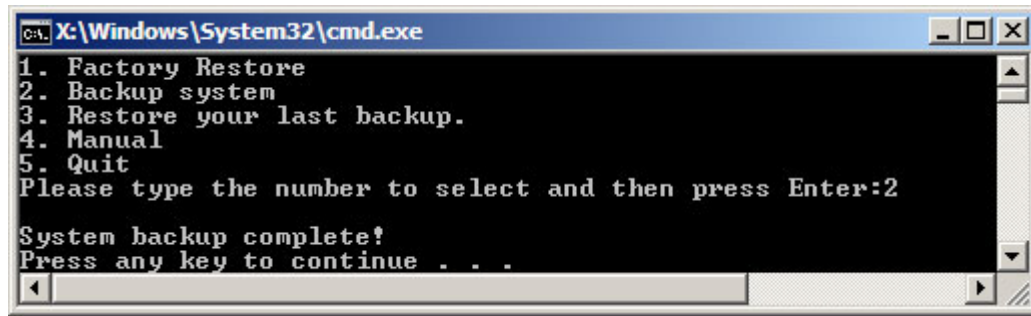

Figure D-37: System Backup Complete Window
Step 3: The screen shown in **Figure D-37** appears when system backup is complete. Press any key to reboot the system.